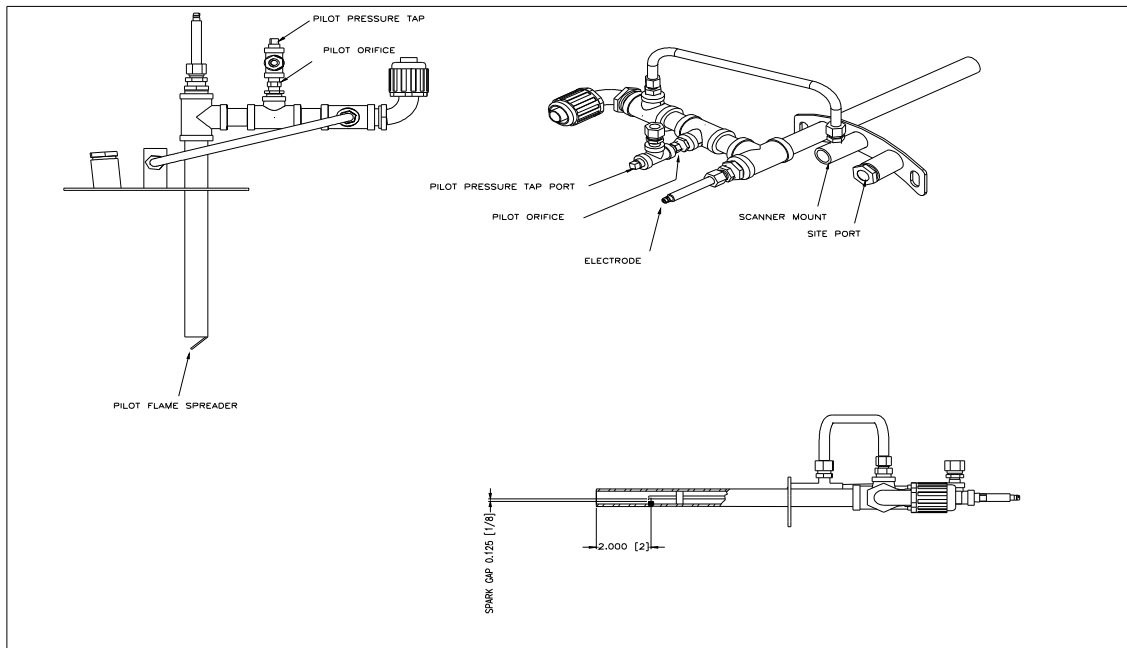

Figure 5: Pilot Assembly (removed from burner)
11. All fuel/air adjustments should be made to achieve required input rate, satisfactory combustion test values, flame stability and appearance. Before start up, determine the burner's manifold pressure. See the appropriate chart for your model burner listed in Figure 5 (Approximate Manifold Pressure). The pressures shown are the approximate net pressure; therefore the heat exchanger's over-fire pressure must be added to these pressures to determine the total manifold pressure for your installation.
1. Prior to burner start up – contact the local gas company to determine if any correction factors have to be applied to their indicated meter flow rates. This information is important as relates to achieving specific heat exchanger BTU/HR inputs. Refer to Figure 5 (Approximate Manifold Pressures) and the burner rating plate for additional firing rate information.
6. Install required system measuring devices. See item 12, page 12. (Burner Start up and test equipment)